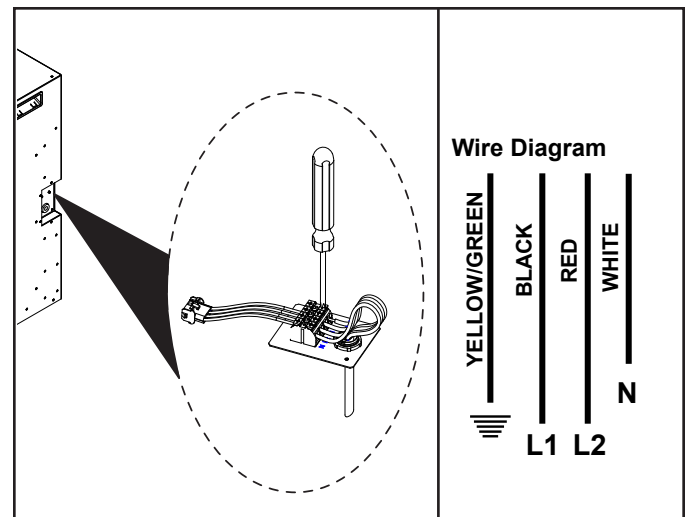

Figure 4.6 Electrical Connection / Installation
2. Install a wire strain relief bushing into the cover plate. Terminate type NM-B wire to the terminal block, ensure connections are secure, and tighten the strain relief. To load wire conductors into the junction block, depress the spring-loaded terminals on the junction block by hand or use a screwdriver. See Figure 4.6.